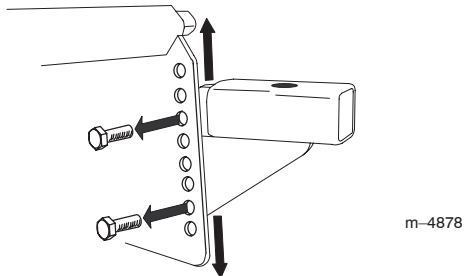

Figure 4
2. Remove the bolts securing the arms to the cultivator (Fig. 4).
3. Move the arms to the set of holes corresponding to the desired depth (Fig. 4). Moving the arms up sets the digging depth deeper; moving them down sets it shallower.